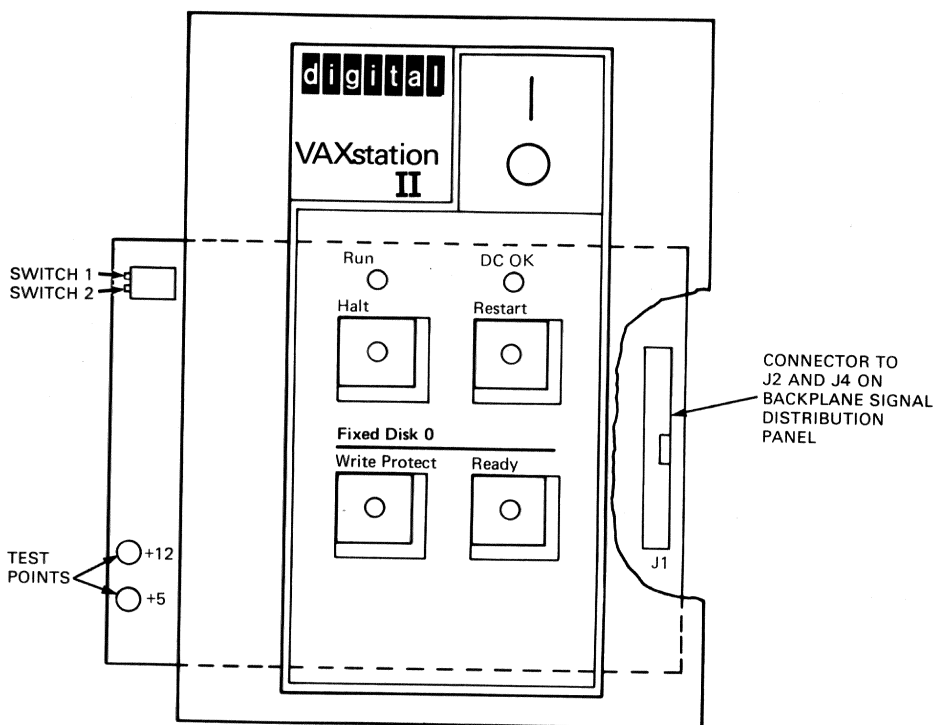

Figure 1-7 Control Panel and PC Board
1.3.2.1 Control Panel Printed Circuit Board – The control panel PC (printed circuit) board lies behind the molded plastic front control panel. An LTC (line-time clock) DIP (dual in-line package) switch pair, and +5 Vdc and +12 Vdc test points are on this PC board. The LTC DIP switches labeled 1 and 2 are shown in Figure 1-7.